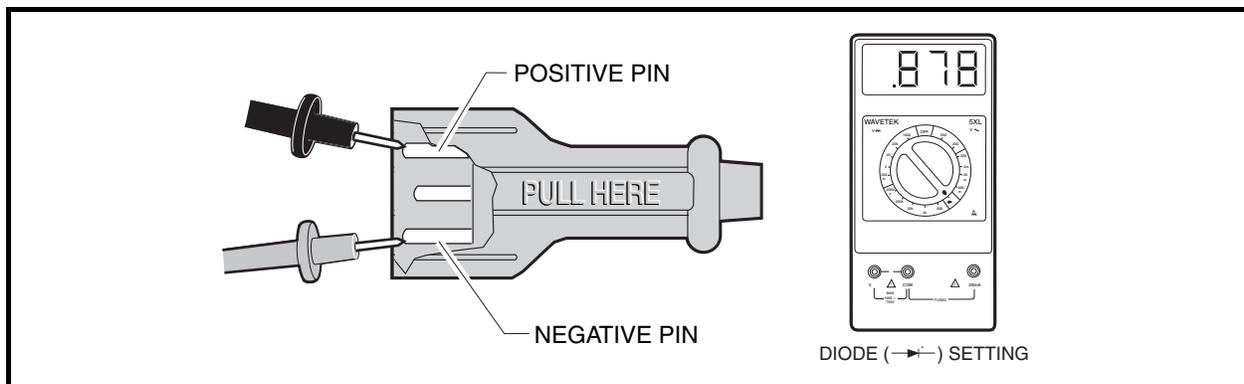

Figure 6-15 DC Plug Test – Probes Reversed
3. Reverse the test probes and check the DC plug again (**Figure 6-15, Page 6-18**). The multimeter should indicate approximately 878 mV.